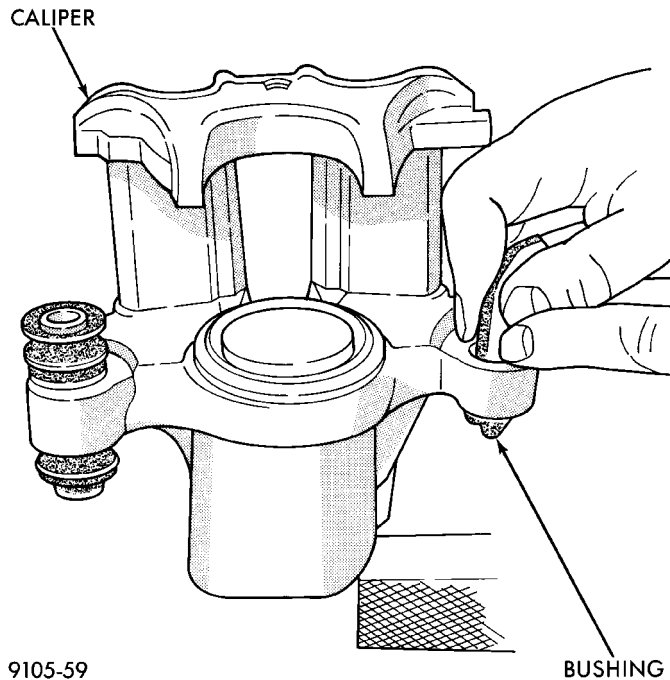

Fig. 171 Installing Caliper Guide Pin Bushing
(2) Insert the folded bushing into the caliper housing (Fig. 171). **Do not use a sharp object to perform this step due to possible damage to the bushing.**